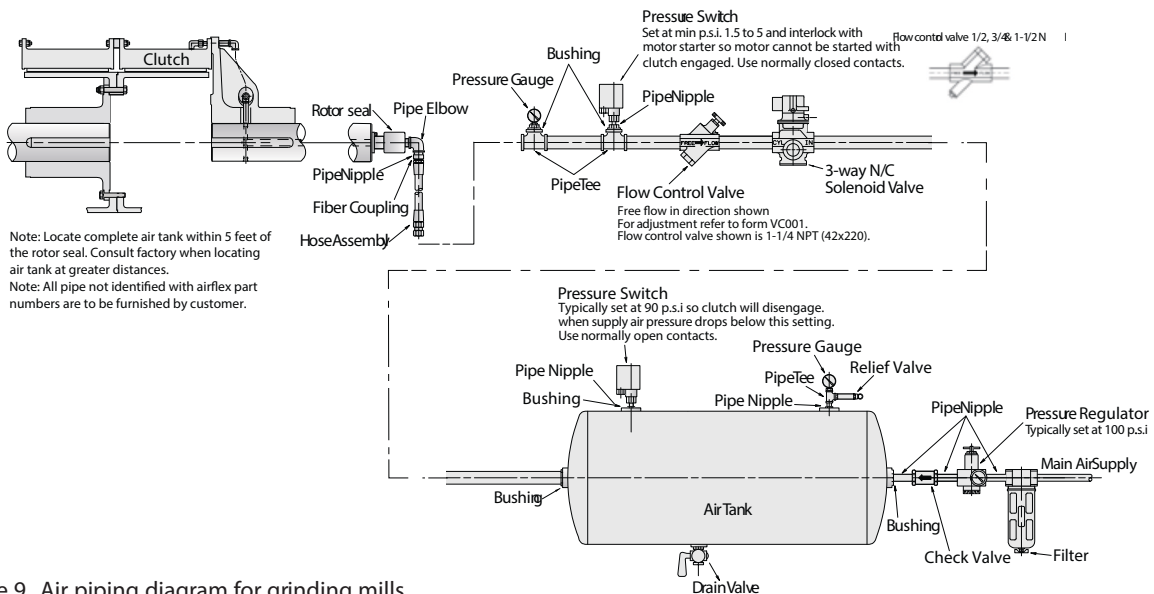

Figure 9. Air piping diagram for grinding mills
2.8.1 A typical air control system is shown on Figure 9. Since operating characteristics vary from one grinding mill to another, following are some general guidelines for installing the air controls.